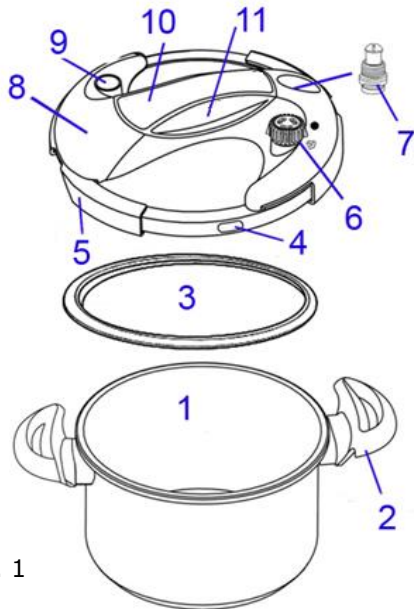

Fig. 1
I. Structure drawing and specifications (Fig. 1).